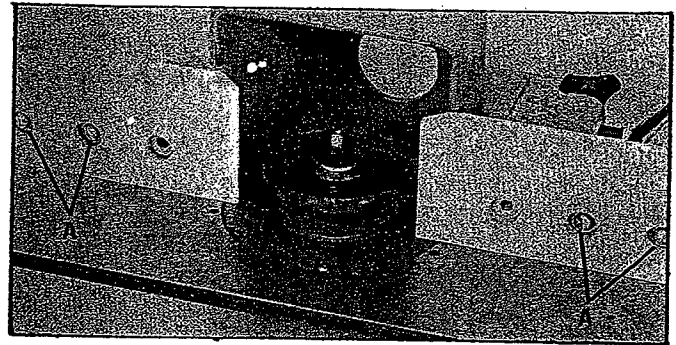

Fig. 21
The wood fence should be adjusted endwise so the opening is never more than is required to clear the spindle guard. To adjust the fence endwise, loosen the four screws (A) Fig. 21, move the fences to the required positions and tighten the four screws (A). If further adjustment is required, remove the four screws (A) and reposition them in different holes in the fence until the desired setting is obtained.